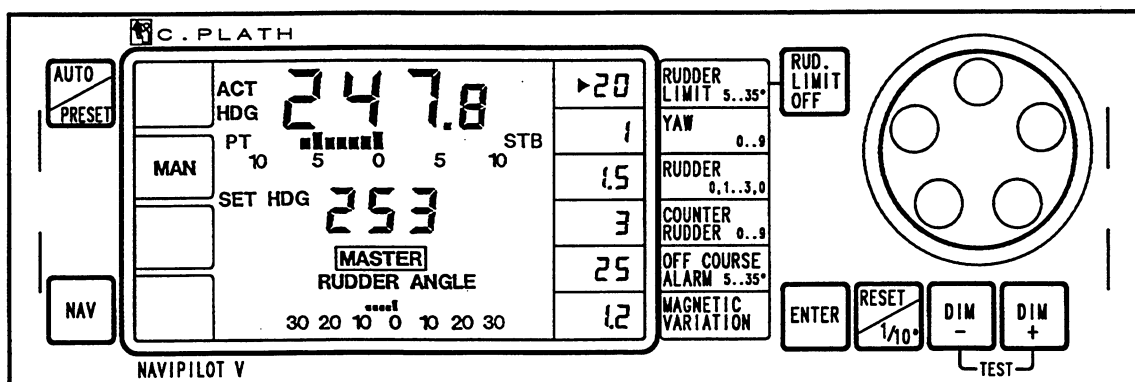

Figure 3-02 Normal Operational Display
2. Energize the autopilot system. The autopilot will perform a self-test. After the self-test has been completed (approximately 5 sec.) the autopilot will display the heading of the compass currently selected as the heading reference (gyrocompass or magnetic compass) for the autopilot. To indicate the manual steering mode, the autopilot will show **MAN** on the left-hand side of the display, see Fig. 3-02. The Setup Procedure for the basic operational parameter settings may now be carried out, see 3.5.